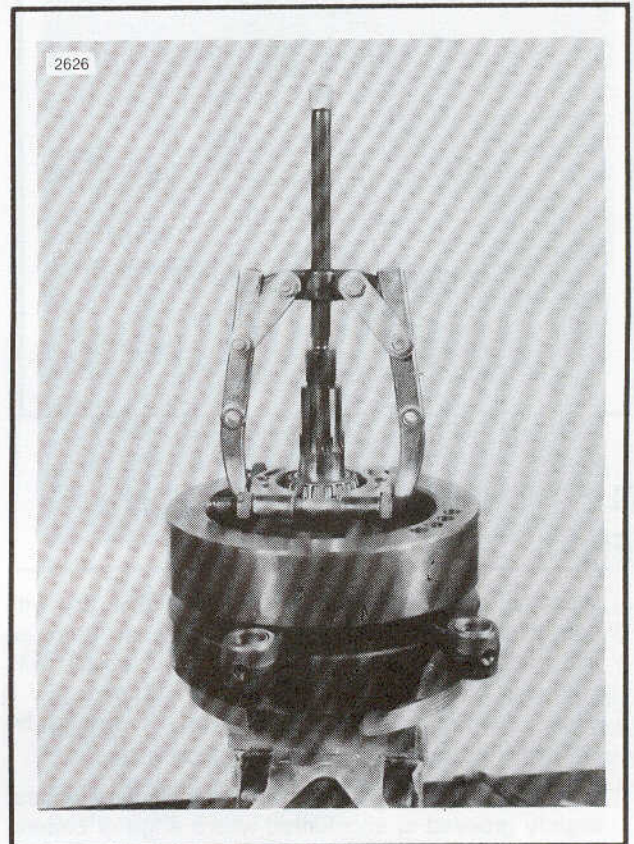

Figure 3-60. Pull Bearing from Sprocket Shaft
1. See Figure 3-60. If flywheels are to be disassembled, place a FLYWHEEL REBUILDING JIG, Part No. HD-34813 in a vise. Insert pinion shaft into fixture and install WEDGE ATTACHMENT, Part No. HD-95637-46 and GENERAL PURPOSE CLAW PULLER, Part No. HD-95635-46 over sprocket shaft bearing. Turn forcing screw to remove bearing. Keep bearings in a set with proper bearing outer races.